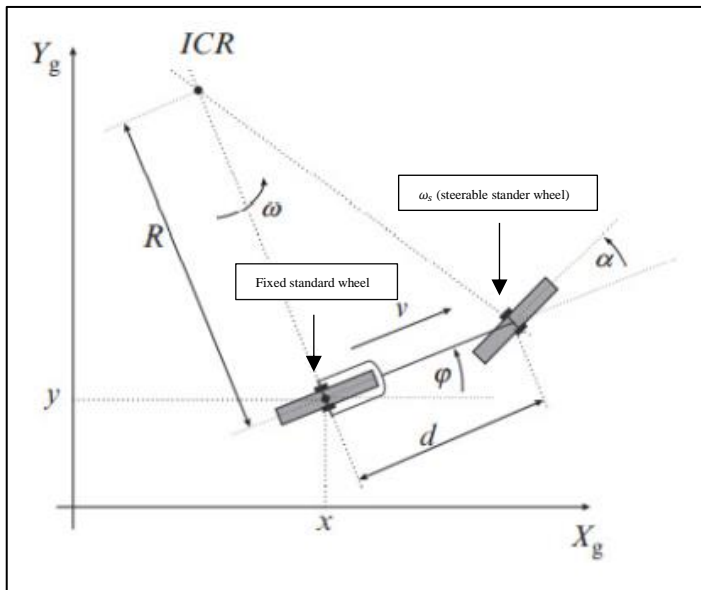

Figure 1: Problem statement illustration.
- 4-The robot will have **two spherical wheels** (not shown in Figure 1) **to balance it** if its speed is slow or zero (note that the spherical wheels do not add any constraints to the robot since they are omnidirectional so we could model the robot as if the spherical wheels are not there)